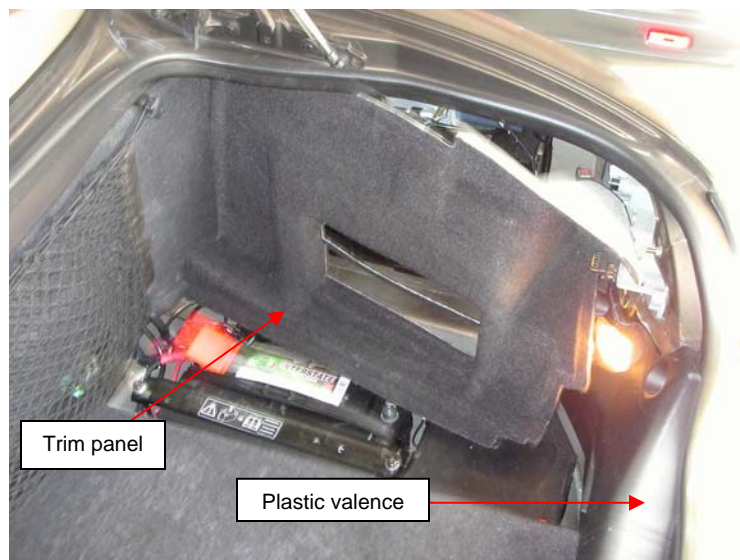

Fig. 2a XK8
- 2a XK8: remove the trunk-floor battery cover and disconnect the battery negative-ground cable. Remove the trim panel (Fig. 2a) by slowly pulling it from the rear toward the front. It is not necessary to remove the plastic valence at the rear of the trunk, as called for in the JTIS CD instructions, if you go slowly.